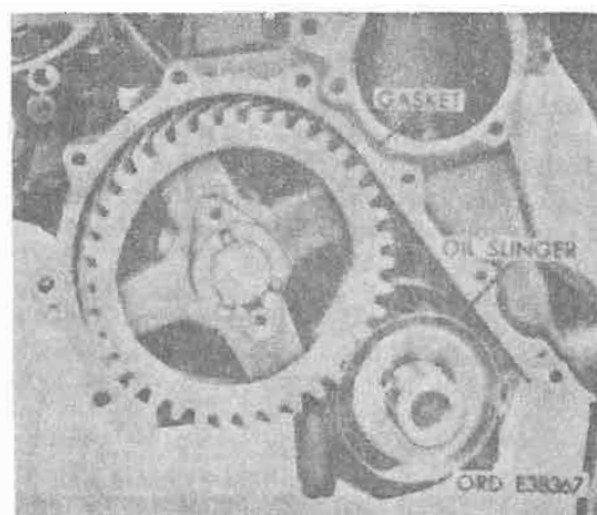

Figure 4-100. Crankshaft oil slinger.
b. Crankshaft Oil Slinger. Remove the timing gear cover gasket (cover-to-cylinder block) and oil slinger from crankshaft. Discard gasket (fig. 4-100).